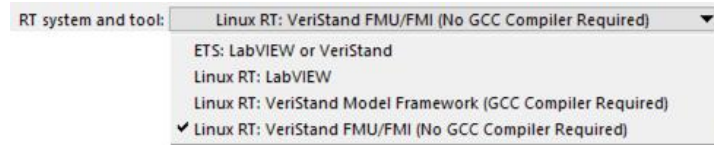

Figure 24. Choices for NI system and tool.
- ⑳ Drop-down control to choose among four supported NI target types and tools (Figure 24). This selection determines the type of NI project file that is specified ㉑.